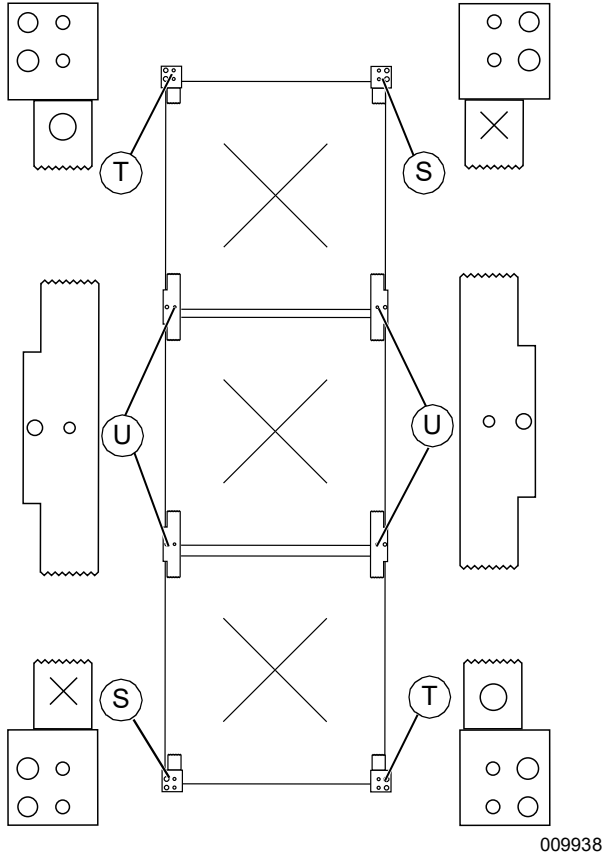

Figure 4-29. Installing Retention Clips (2 of 3)
See **Figure 4-29**. Note that there are three types of retainer clips: double retention clips (U), single retention clips marked O (T) and single retention clips marked X (S).
- Install single retention clips (T) (S) at the top and bottom of the stack.
- Install double retention clips (U) between rows of modules.